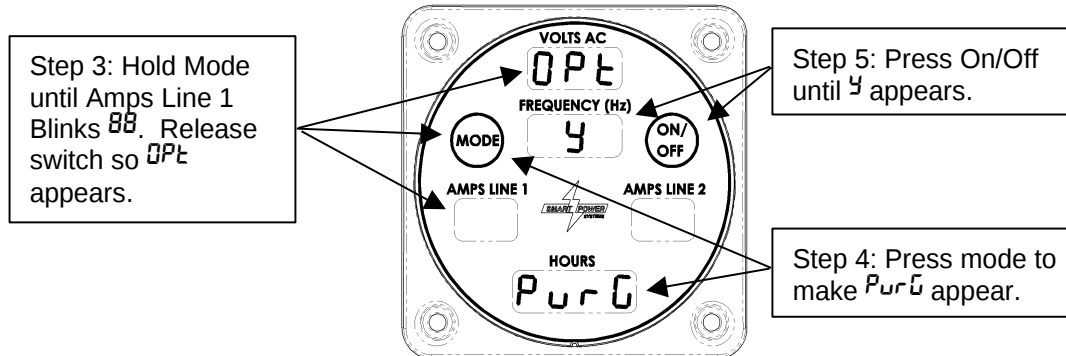

Figure 11 – Enabling Purge Mode
The system controller has been designed to provide a purge option. With this option applied, the generator will turn at a reduced speed to minimize wear to the system's hydraulic components while purging air from the system. The generator is shipped from the factory with the purge option enabled. See Figure 11, below, for instruction on manually enabling purge mode.
3. Otherwise, press and hold the Mode switch until the Amps Line 1 field begins blinking 88 (more than 10 seconds). Release the switch so 0P1 appears. Reference Figure 11.